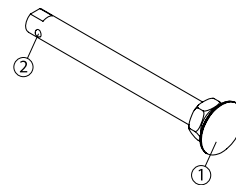

Fig. 9
- To remove the rear wheels, push the button in the center of the wheel's hub (Fig. 9) and pull the wheels off (1).
- Always make sure that the quick release detent balls (2) extend beyond the axle bushing for a secure lock.